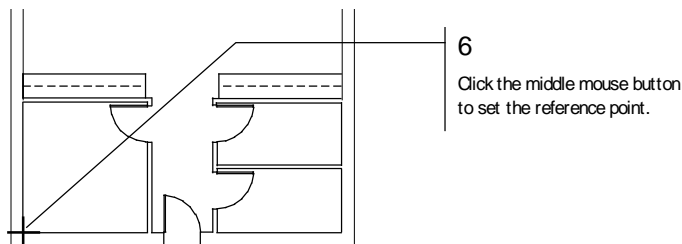

Figure 3.43: Setting a reference point
6. Click the middle mouse button near the lower left corner of the interior wall shown in Figure 3.43. This will be your reference point. You are prompted to *Select one jamb of window.*